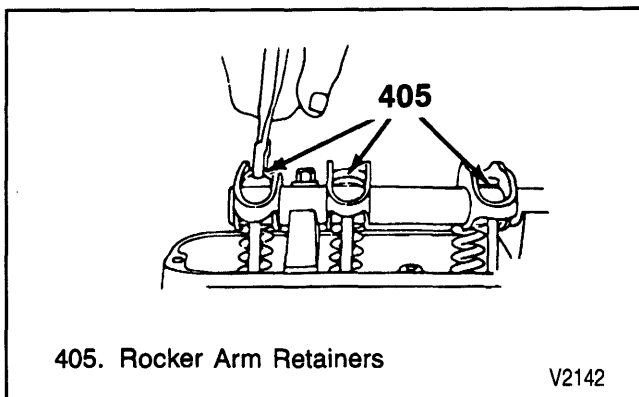

Figure 12—Removing the Rockers Arm Retainers
- B. Remove the rocker arm retainers with pliers (figure 12).